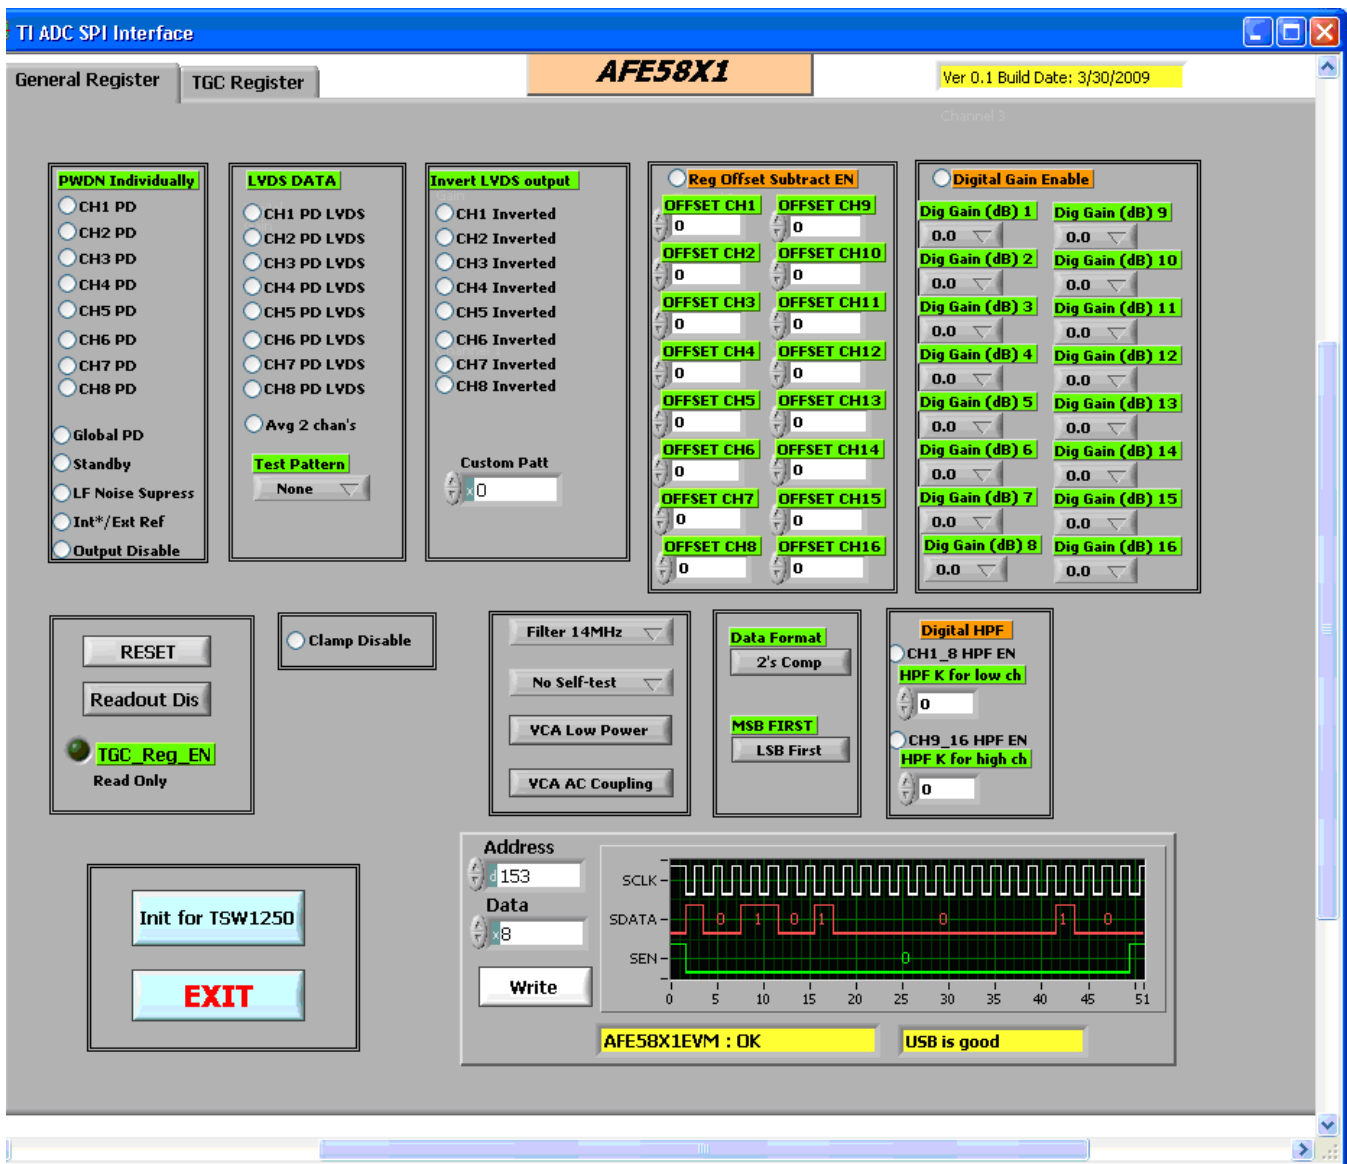
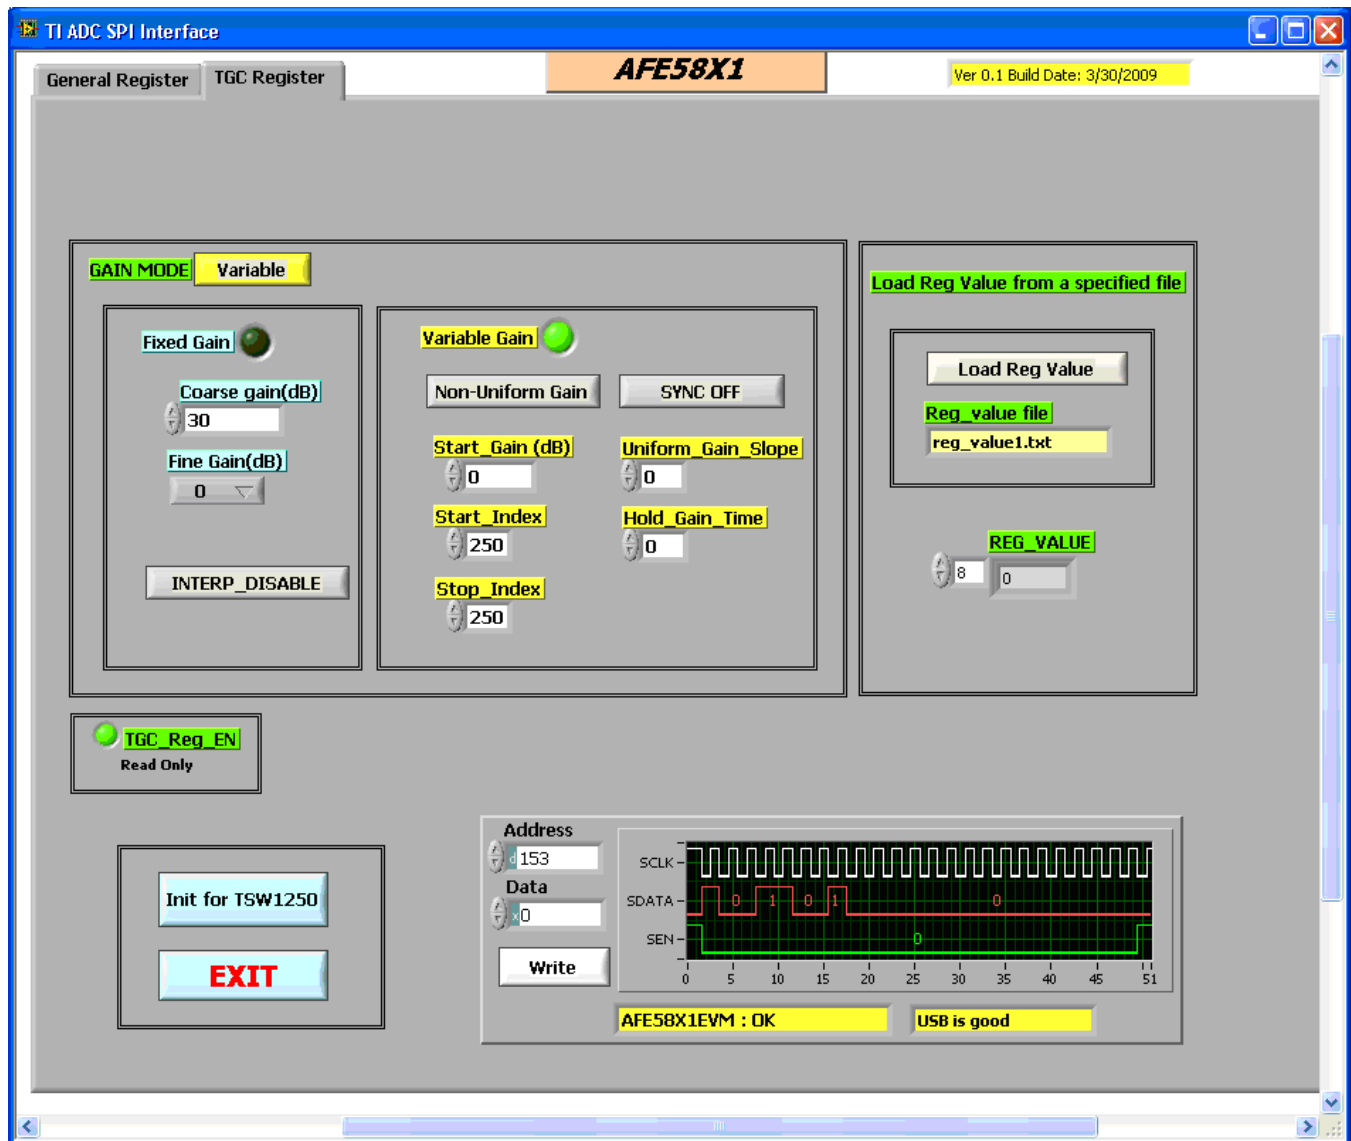

Figure 7. AFE5851EVM USB SPI Interface for General Registers
Figure 9. AFE5851EVM USB SPI Interface for Variable Gain Mode
Different modes exist as shown in Figure 7 through Figure 9.
Figure 7 through Figure 9 show several screen images of the different modes.
- From Figure 7 press "Init for TSW1250" button.
- Select TAB "TGC Register" — Figure 9 will appear.
- From Figure 9 press "Variable" toggle button to enter fixed gain mode.